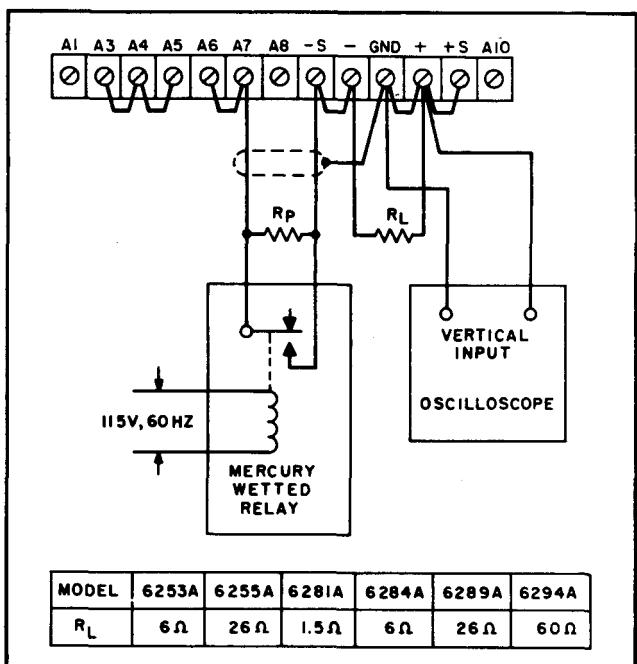

Figure 5-10. CV Programming Speed, Test Setup
5-32 Programming Speed. This measurement is made by monitoring the output voltage with an oscilloscope while rapidly changing the remote programming resistance. For up-programming, the remote resistance is varied from zero ohms to the value that will produce maximum output voltage; and for down-programming, the remote resistance is varied from the value that will produce maximum output voltage to zero ohms. To check the up-programming speed, make the connections indicated in Figure 5-10; for down-programming, simply remove  $R_L$ .
1. Restrap the rear barrier strip as indicated in Figure 5-10. Note that the jumper between  $+S$  and  $A10$  is removed. This disconnects the output capacitor  $C$  to increase the programming speed. A minimum amount of output capacitance ( $C$ ) is permanently wired to the output and should not be removed, because the supply could oscillate under certain load conditions. The programming speed increases by a factor of from 10 to 100 when the output capacitor  $C$  is removed.
2. Connect the relay, oscilloscope, and programming resistor  $R_P$  as illustrated in Figure 5-10. Select the value of the programming resistor that